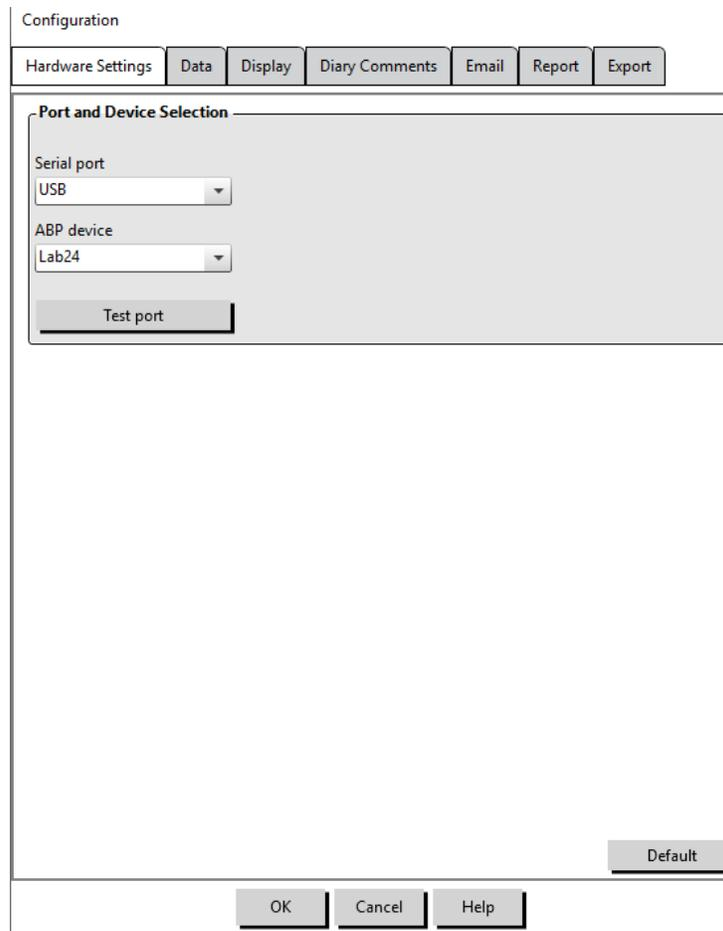

Figure 28: Configuration Menu, Hardware
7. To change the graph type, graph scale, and horizontal sight line settings, Click **Details** (Figure 28).
8. To add a custom logo to the report, Click **Details** (Figure 28) and browse to the location of the custom logo on the hard drive.